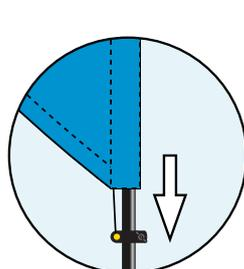

Fig 10.
8. Insert the yellow button on the end of the rope into the cleat on the pole, slide down the pole to tension the flag and tighten the wingnut. (Fig 10)